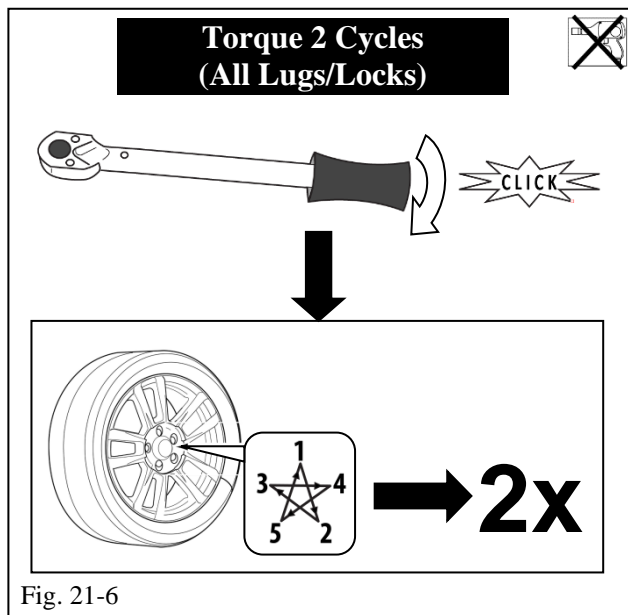

Fig. 21-6
- (j) Use a torque wrench to tighten the lug nuts in sequence 1 through 5 to 103N·m (76 ft-lbf) (Fig. 21-6).
- (k) Re-torque all of the lug nuts in same the 1-5 sequence (Fig. 21-6).